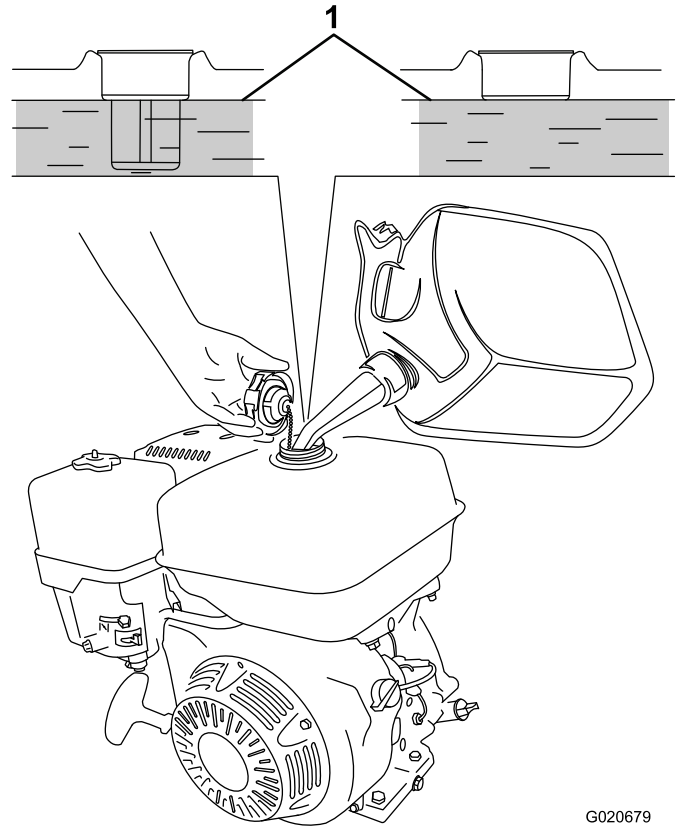

Figure 16
3. Add unleaded gasoline to the fuel tank, until the level is at the bottom of the maximum fuel level, as shown in Figure 16.